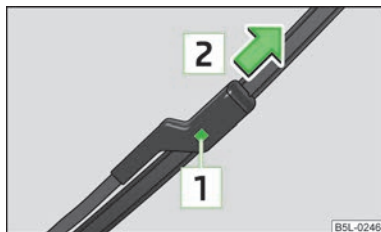

Fig. 31
- Press the locking button [1] » Fig. 31 to unlock the wiper blade and pull off in the direction of the arrow [2].